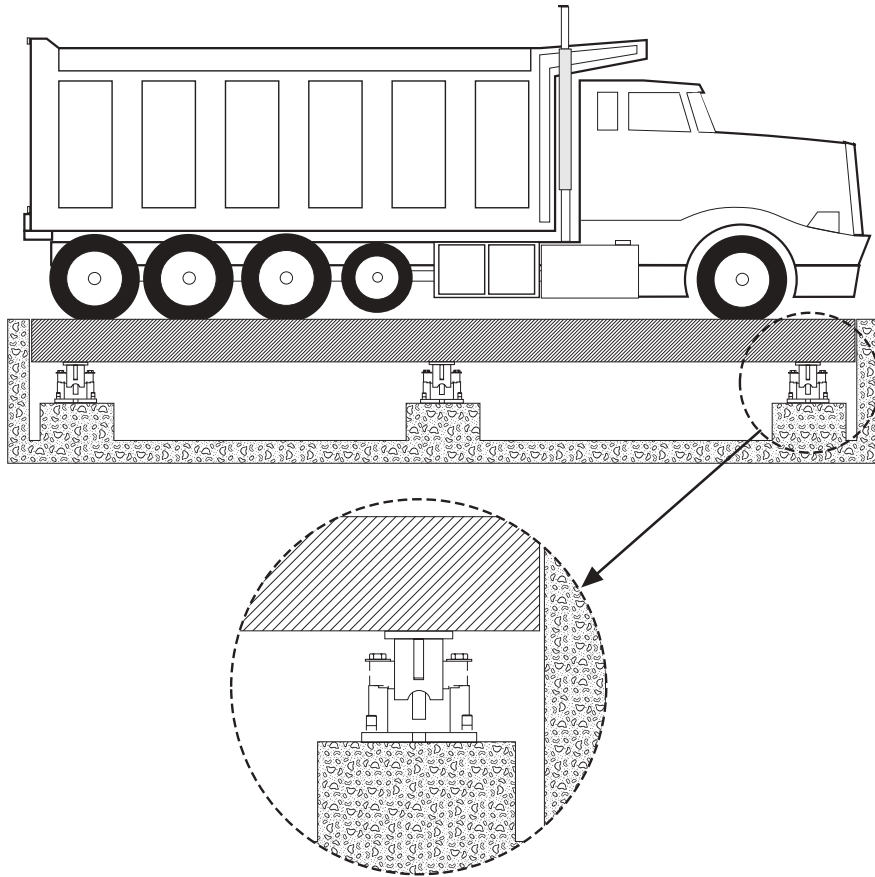

Fig. 2-1: Typical configuration of foundation, mount, and scale deck I-beam
1. Start with a flat, rigid foundation (concrete pier). Position the base stand onto the foundation. Align the base stand in the direction of travel (Fig. 2-1, page 3).